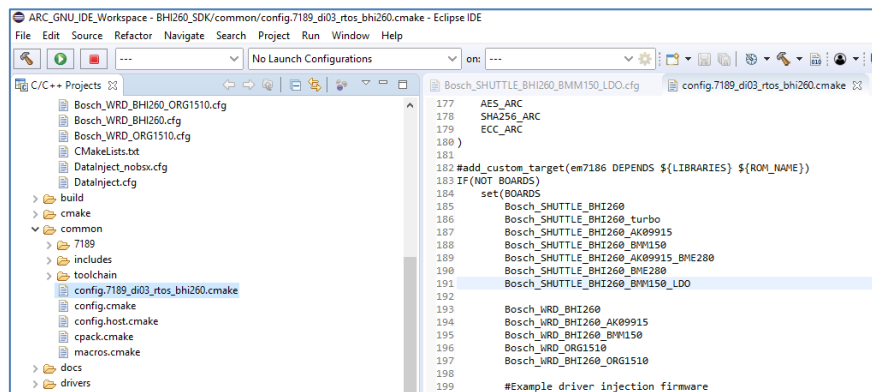

Figure 13 Add the new cfg board name
- Double click the file “config.7189_di03_rtos.cmake” under the “common” folder. Add the line Bosch_SHUTTLE_BHI260_BMM150_LDO as shown in Figure 13.